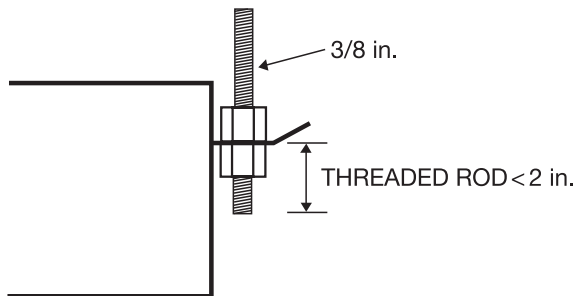

Fig. 22 — Threaded Rod Dimension
3. Secure the unit in position with locknuts and washers on both sides of the unit bracket. Ensure the threaded rod does not protrude more than 2 in. below the mounting bracket as shown in Fig. 22.